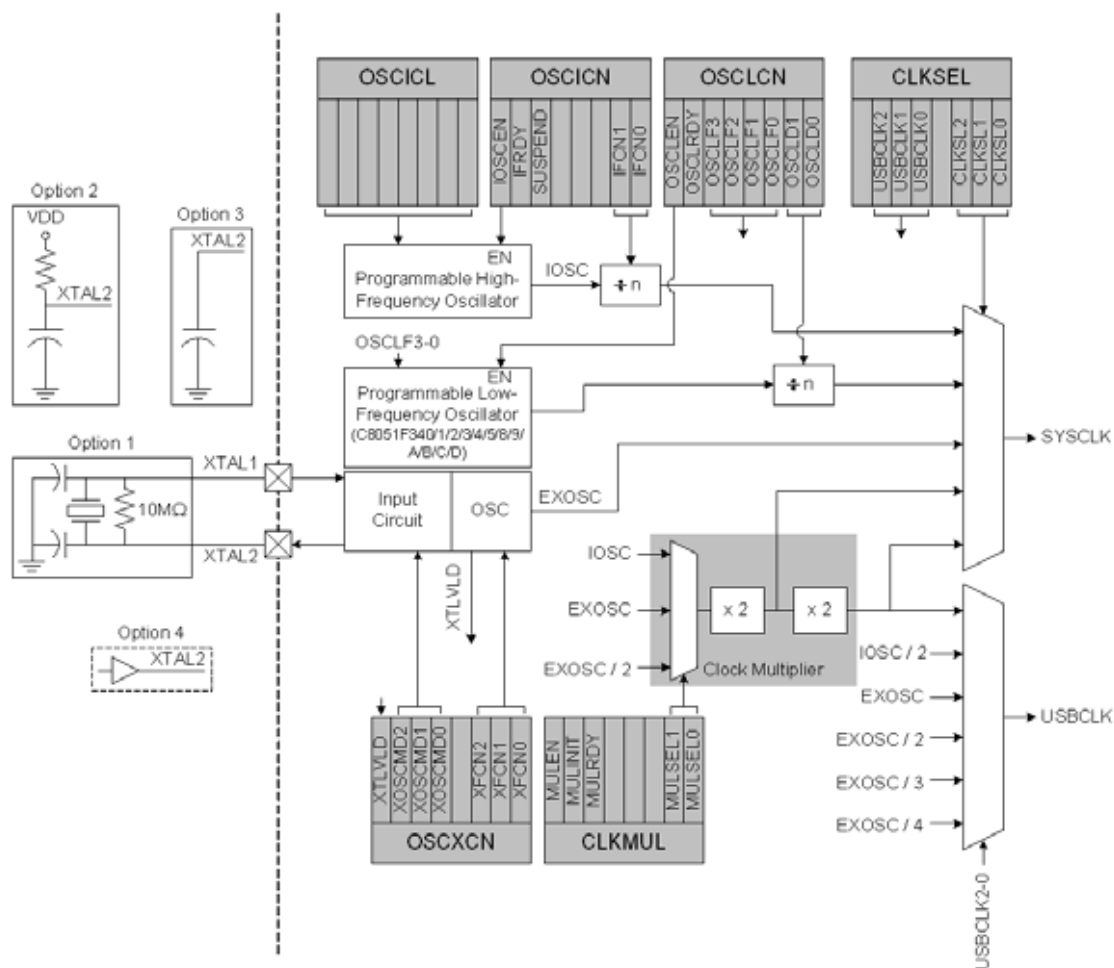

Figure 14.1. Oscillator Diagram
C8051F34x devices include a programmable internal high-frequency oscillator, a programmable internal low-frequency oscillator (C8051F340/1/2/3/4/5/8/9/A/B/C/D), an external oscillator drive circuit, and a 4x Clock Multiplier. The internal high-frequency and low-frequency oscillators can be enabled/disabled and adjusted using the special function registers, as shown in Figure 14.1. The system clock (SYSCLK) can be derived from either of the internal oscillators, the external oscillator circuit, or the 4x Clock Multiplier divided by 2. The USB clock (USBCLK) can be derived from the internal oscillator, external oscillator, or 4x Clock Multiplier. Oscillator electrical specifications are given in Table 14.1.
The external oscillator circuit may drive an external crystal, ceramic resonator, capacitor, or RC network. A CMOS clock may also provide a clock input. For a crystal or ceramic resonator configuration, the crystal/resonator must be wired across the XTAL1 and XTAL2 pins as shown in Option 1 of Figure 14.1. A 10 M $\Omega$  resistor also must be wired across the XTAL1 and XTAL2 pins for the crystal/resonator configuration. In RC, capacitor, or CMOS clock configuration, the clock source should be wired to the XTAL2 pin as shown in Option 2, 3, or 4 of Figure 14.1. The type of external oscillator must be selected in the OSCXCN register, and the frequency control bits (XFCN) must be selected appropriately (see SFR Definition 14.4)
If a crystal or ceramic resonator is used as an external oscillator source for the MCU, the circuit should be configured as shown in Figure 14.1, Option 1. The External Oscillator Frequency Control value (XFCN) should be chosen from the Crystal column of the table in SFR Definition 14.4 (OSCXCN register). For example, a 12 MHz crystal requires an XFCN setting of 111b.
If an RC network is used as an external oscillator source for the MCU, the circuit should be configured as shown in Figure 14.1, Option 2. The capacitor should be no greater than 100 pF; however for very small capacitors, the total capacitance may be dominated by parasitic capacitance in the PCB layout. To determine the required External Oscillator Frequency Control value (XFCN) in the OSCXCN Register, first select the RC network value to produce the desired frequency of oscillation. If the frequency desired is 100 kHz, let R = 246 kΩ and C = 50 pF:
If a capacitor is used as an external oscillator for the MCU, the circuit should be configured as shown in Figure 14.1, Option 3. The capacitor should be no greater than 100 pF; however for very small capacitors, the total capacitance may be dominated by parasitic capacitance in the PCB layout. To determine the required External Oscillator Frequency Control value (XFCN) in the OSCXCN Register, select the capacitor to be used and find the frequency of oscillation from the equations below. Assume  $V_{DD} = 3.0 \text{ V}$  and  $C = 50 \text{ pF}$ :
**CRYSTAL MODE** (Circuit from Figure 14.1, Option 1; XOSCND = 11x)
**RC MODE** (Circuit from Figure 14.1, Option 2; XOSCND = 10x)